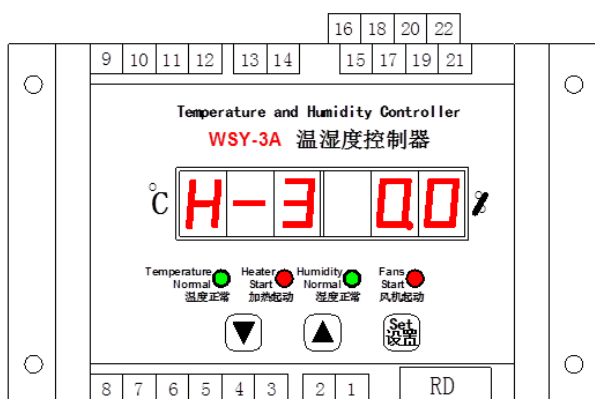

Figure 7
- Continue to press the setting button, the left three digit digital display flashes H-3, indicating the temperature correction coefficient setting value. The right three digit digital display is the numerical value, with a setting value of -9.9-9.9, which can be set through "^" and "V" (see Figure 7).